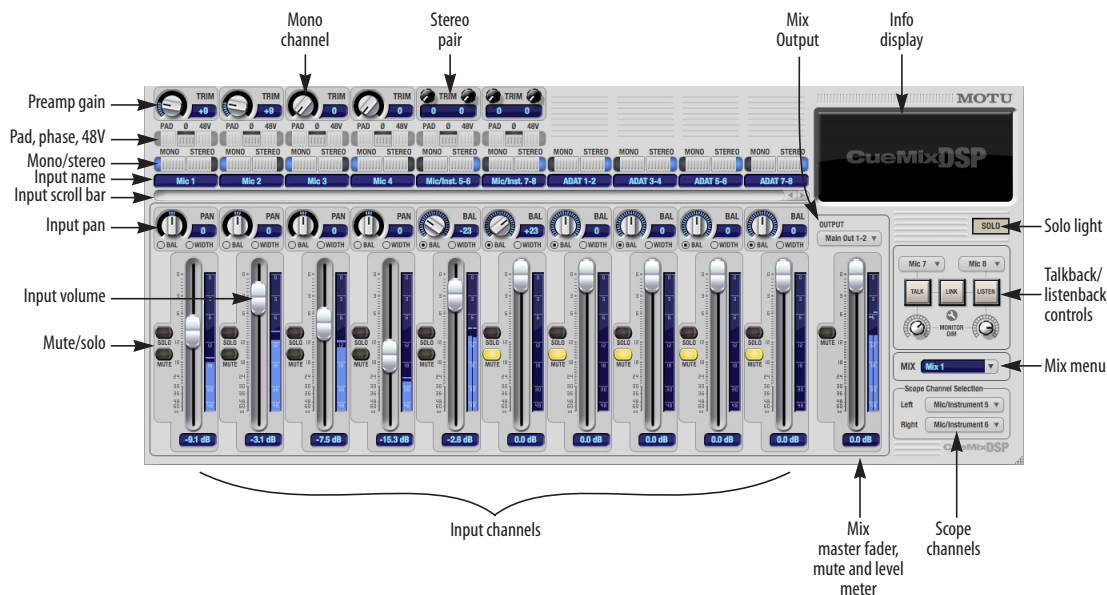

Figure 9-1: MOTU CueMix FX is a virtual mixer that gives you control over the 8pre USB's on-board mixing features.
CueMix FX displays one mix at a time. To select which mix you are viewing, choose it from the Mix menu, as shown in Figure 9-1. Double-click the name to change it.
To view a mix, choose it from the Mix menu, as shown in Figure 9-1. The menu shows all mixes by name, followed by the audio interface's output pair that it corresponds to.
The master fader (Figure 9-1) controls the overall level of the mix (its volume on its stereo output). Use the individual input faders to the left to control individual input levels.
The master mute button (next to the master fader) (Figure 9-1) temporarily disables (silences) the currently displayed mix.
Click the *Phase* button (Figure 9-1) to invert the phase of the input signal. For stereo pairs, you can invert the phase for the left and right channels independently: click the phase button (∅) repeatedly to cycle among two states for mono channels (on or off) and four states for stereo grouped channels (no inversion, left only, both, or right only).
Click the *Mono* button (Figure 9-1) if you would like an input to be treated as a mono channel. If you would like to work with it as one channel of a linked stereo pair, click the *Stereo* button. Inputs are grouped in odd/even pairs (mic 1-2, Analog 1-2, 3-4, etc.) Stereo pairs appear as a single channel strip in the CueMix FX mixer.
The input pan knob (Figure 9-1) pans the input across the bus stereo outputs. All input pan settings belong to the mix currently being viewed.
Use the input fader (Figure 9-1) to adjust the input volume in the mix. Note that an input can have different level, pan, mute and solo settings for each mix. Input channel level meters are post-fader.
To add an input to a mix, or remove it, click its MUTE button. To solo it, use its SOLO button. The Solo light (Figure 9-1) illuminates when any input is soloed (including inputs that may currently be scrolled off-screen).
The *Scope channel selection* menus (Figure 9-1 on page 48) let you choose what input channels will be fed to the CueMix FX audio analysis (scoping) features. See “Devices menu” on page 52.
- 1 Select the source mix (Figure 9-1) and choose Copy from the Edit menu (or press control-C).
The *Scope channel selection* menus (Figure 9-1 on page 48) let you choose what input channels will be fed to the CueMix FX audio analysis (scoping) features described in the following sections.